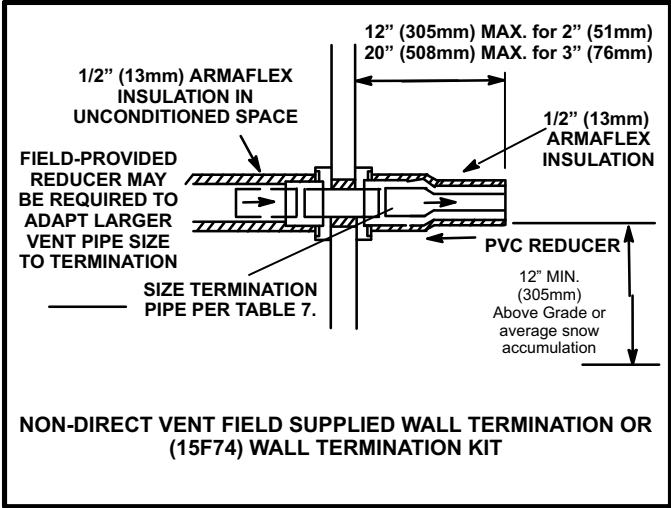

FIGURE 42
- 2 - On field supplied terminations for side wall exit, exhaust piping may extend a maximum of 12 inches (305mm) for 2" PVC and 20 inches (508mm) for 3" (76mm) PVC beyond the outside wall. See figure 42.